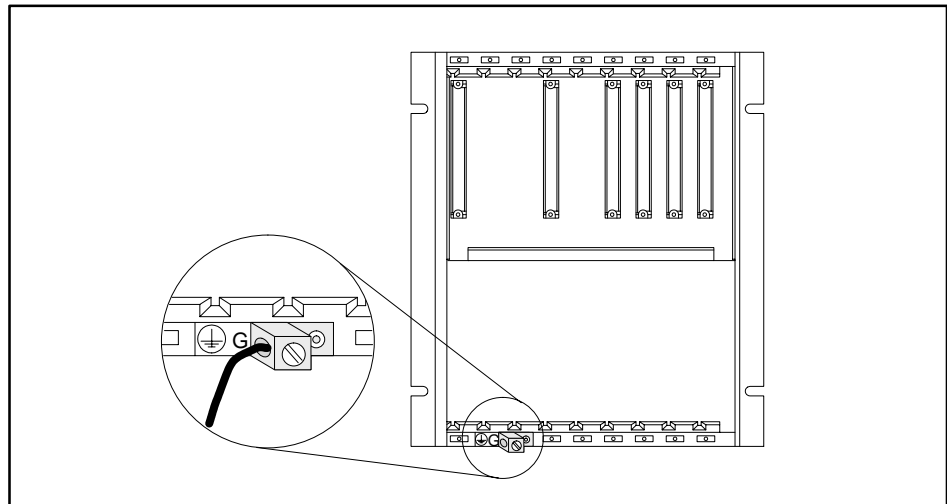

Figure 2-13 Grounding the 545/555 Controller Chassis
- Use the ground connection (Figure 2-13) to attach one end of a ground wire; attach the other end to a nearby grounding rod that meets all electrical specifications required for an earth ground.